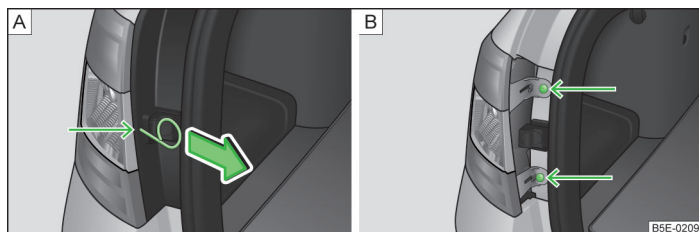

Fig. 223 Remove cover/light
- Insert the clamp for removing the wheel trims » page 215, *Car tool kit* into the hole at the position indicated by the arrow » Fig. 223 - [A].
- Remove the cover in the direction of the arrow » Fig. 223 - [A].
- Use the screwdriver from the tool kit » Fig. 223 - [B] to unscrew the lamp.